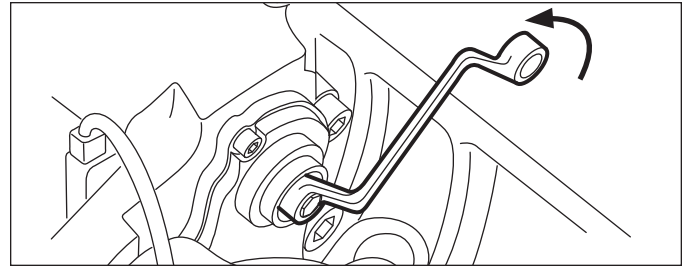

FIGURE 20 - BACKING-OFF (INCREASING) THE RUNNING CLEARANCE
4.2.2 Using a 10mm. six-point box wrench, turn the Shear Adapter (61) **counter-clockwise** and listen for the sound of 3 clicks as the mechanism backs-off (increases) the running clearance. Note: Do not use an open-ended wrench as this may damage the adapter. See Figure 20.